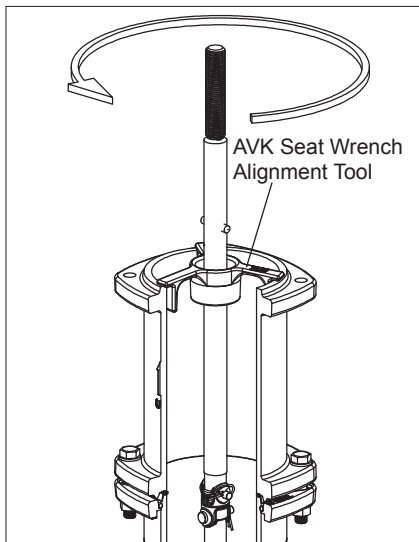

Fig. 7G
7. To remove the Valve Seat Ring (F51) and Main Valve Assembly, Slide the AVK Seat Wrench (Fig. 7G) over the Upper Stem Rod (F16) and engage the seat removal pin. Turn the tool counterclockwise, (approximately 6 turns) until the Valve Seat Ring has disengaged from the Drain Ring (F54).
NOTE: For deeper buries, and optional AVK Seat Wrench Alignment Tool is available. (See Fig. 7G)